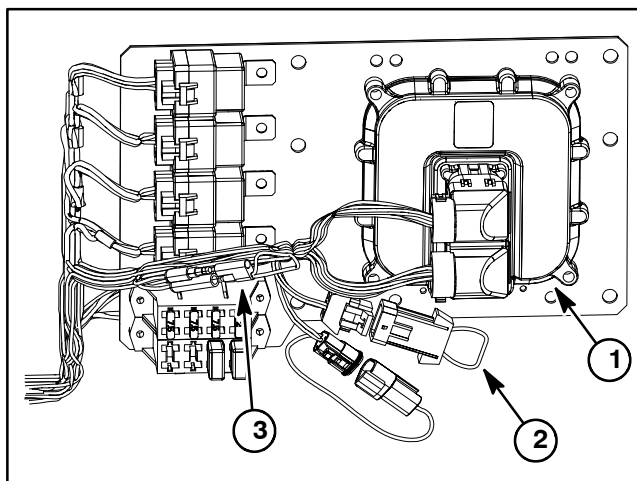

Figure 12
2. Locate Ultra Sonic Boom wire harness communication port and loopback connector (6 pin connector) located near the TEC controller on the mounting plate under the dash panel (Fig. 12). Carefully unplug loopback connector from harness connector.